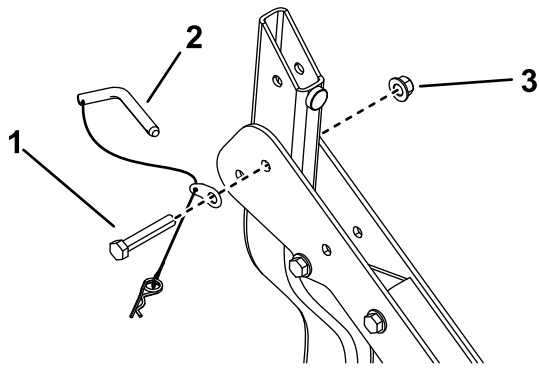

Figure 9
4. With the assistance of a second person, attach the roll bar assembly and the lanyard washer to the lower roll bar tubes using a bolt (1/2 x 3 inches) and locknut (1/2 inch) on each tube (Figure 9).